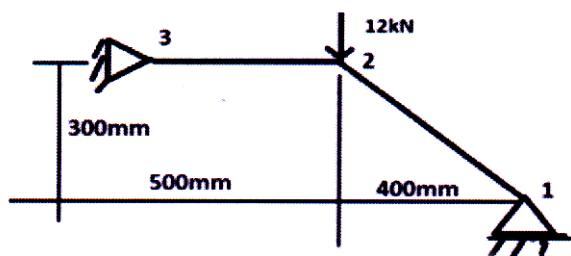

Figure 1
- Q3)** For the plane truss as shown in figure 1, take $E = 2 \times 10^5 \text{ N/mm}^2$, $A = 200\text{mm}^2$